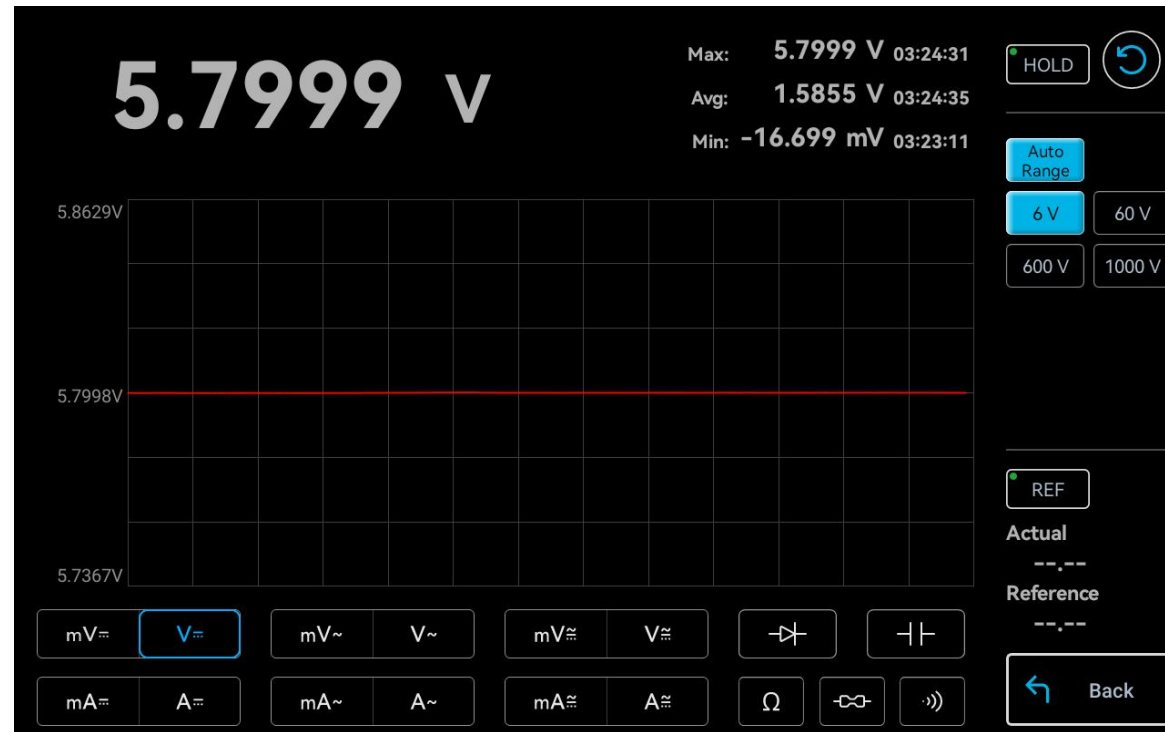

Figure 8-3 DC Voltage Measurement (V)
Test Steps: Select to enable the DC voltage measurement (V) in the measurement item selection area **V_≡**, as shown in Figure 8-3.